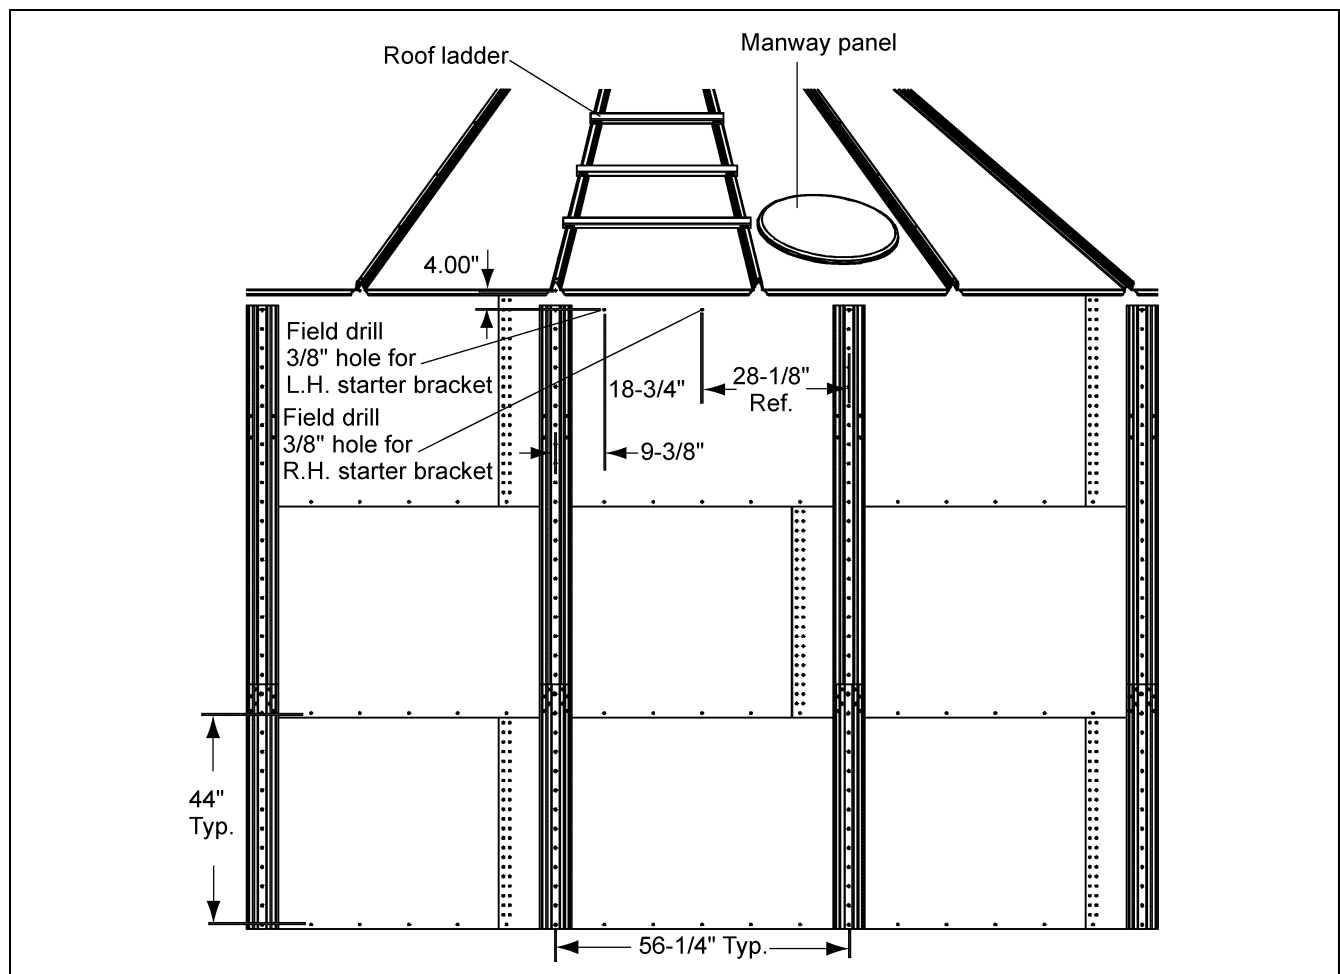

Figure 8B
The starter brackets must be located directly below the roof ladder. Before the starter brackets can be installed, two (2) 3/8" holes must be field drilled 4" below and directly in line with the top row of pre-punched horizontal holes. The first hole, for the left-hand starter bracket, must be located 9-3/8" from the center of the stiffener to the center of the hole. The second hole, for the right-hand bracket, must be located 18-3/4" from the center of the first hole. *Refer to Figure 8B* for the proper location of the two (2) 3/8" field drilled holes required to install the starter brackets.